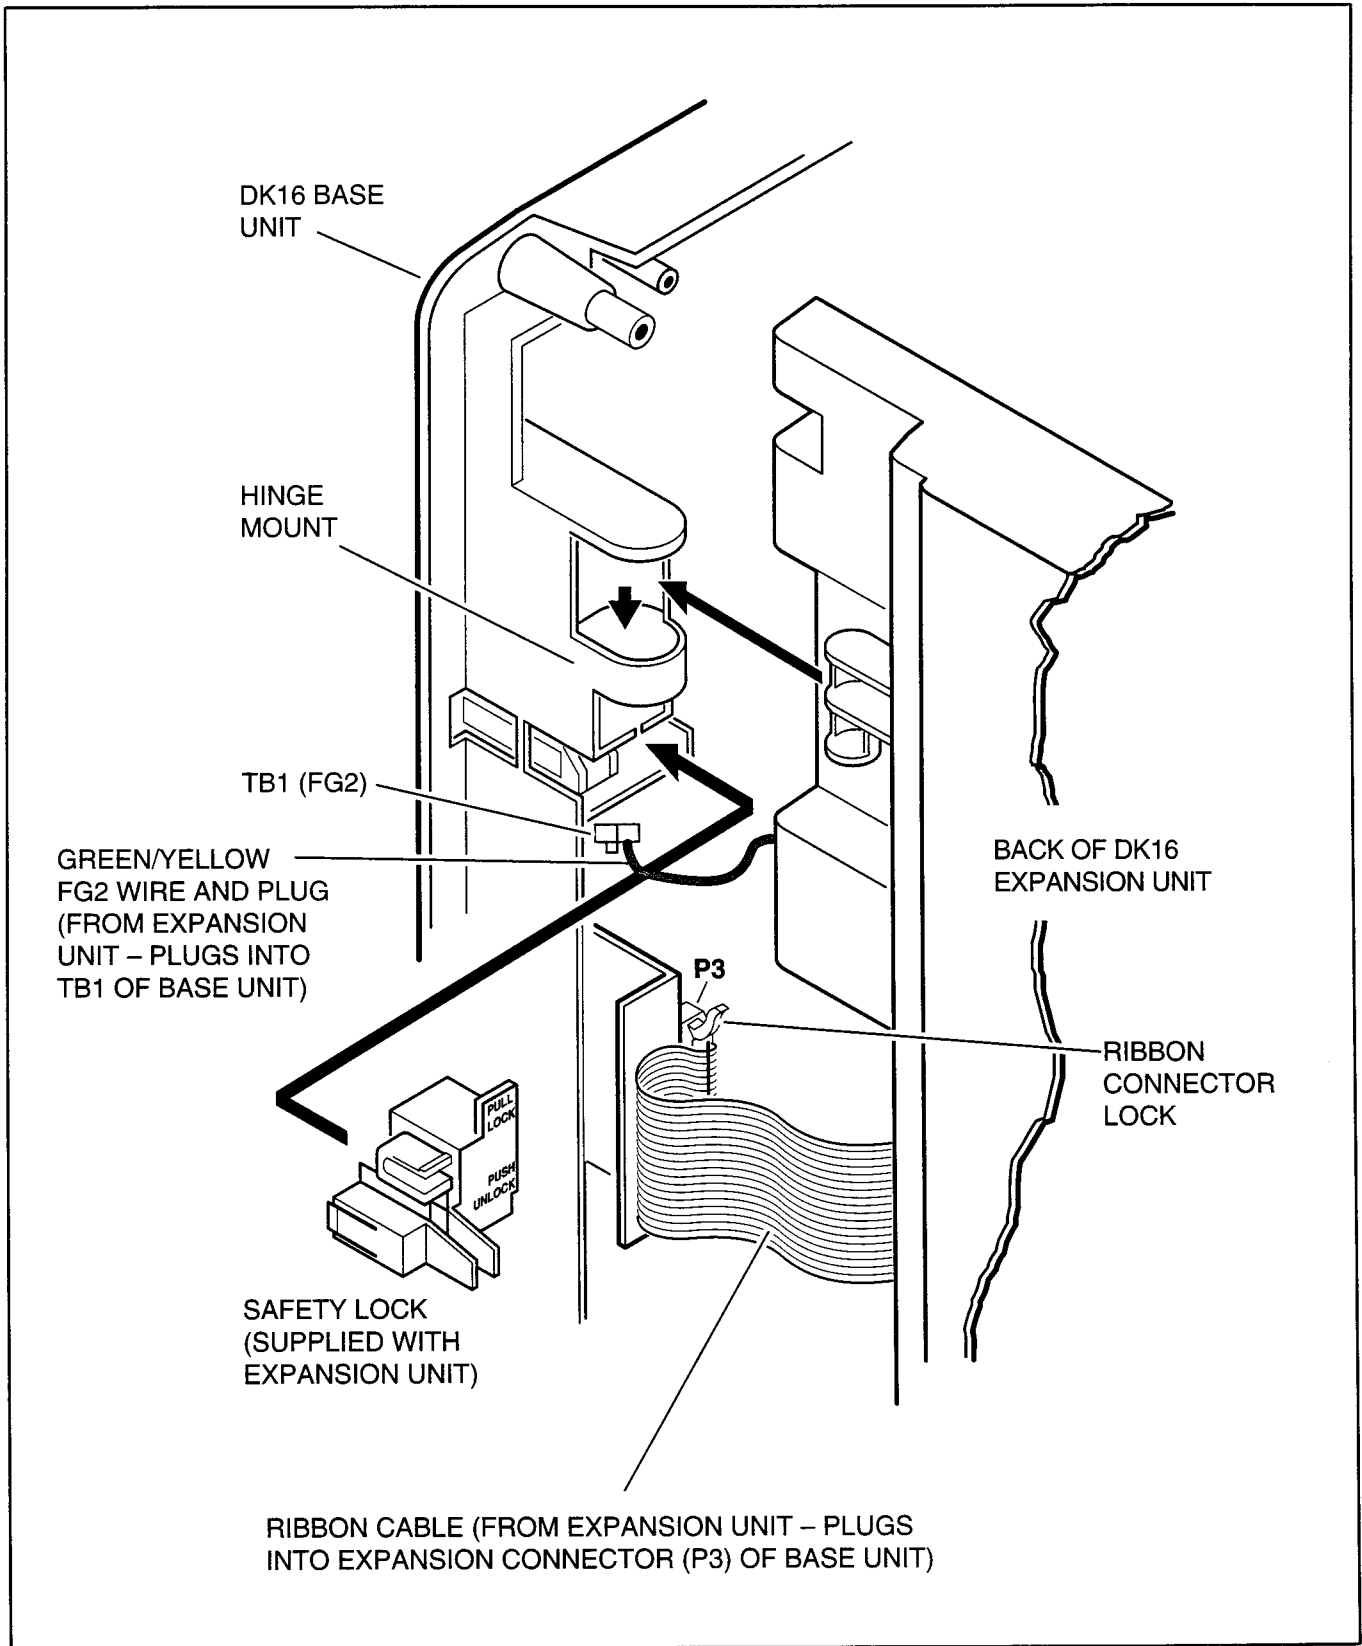

FIGURE 5-5
- 2) Set the Expansion Key Service Unit on the Base Key Service Unit's hinge mounts, making sure that the Expansion Unit sets properly in place (Figure 5-5).
- 3) Remove safety lock from plastic bag which comes with the Expansion Unit. Install safety lock to the Base Unit as shown in Figure 5-5.
- 4) Pull out on the safety lock until it can no longer be moved, securing the Expansion Key Service Unit to the Base Key Service Unit (Figure 5-5). Do not detach the lock from the Base Key Service Unit.
- 5) Connect the Expansion Key Service Unit Ribbon Cable to the connector on the Base Key Service Unit (Figure 5-5). Close ribbon cable connector lock on Base Unit.